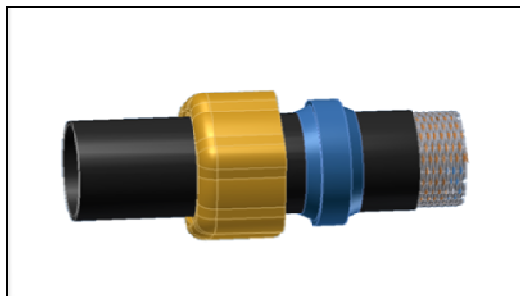

Fig. 2
4. Measure the length of Ferrule sleeve (W) with calipers. Cut off the terminal jacket of the conduit (cutting length = W). (See fig. 2.)